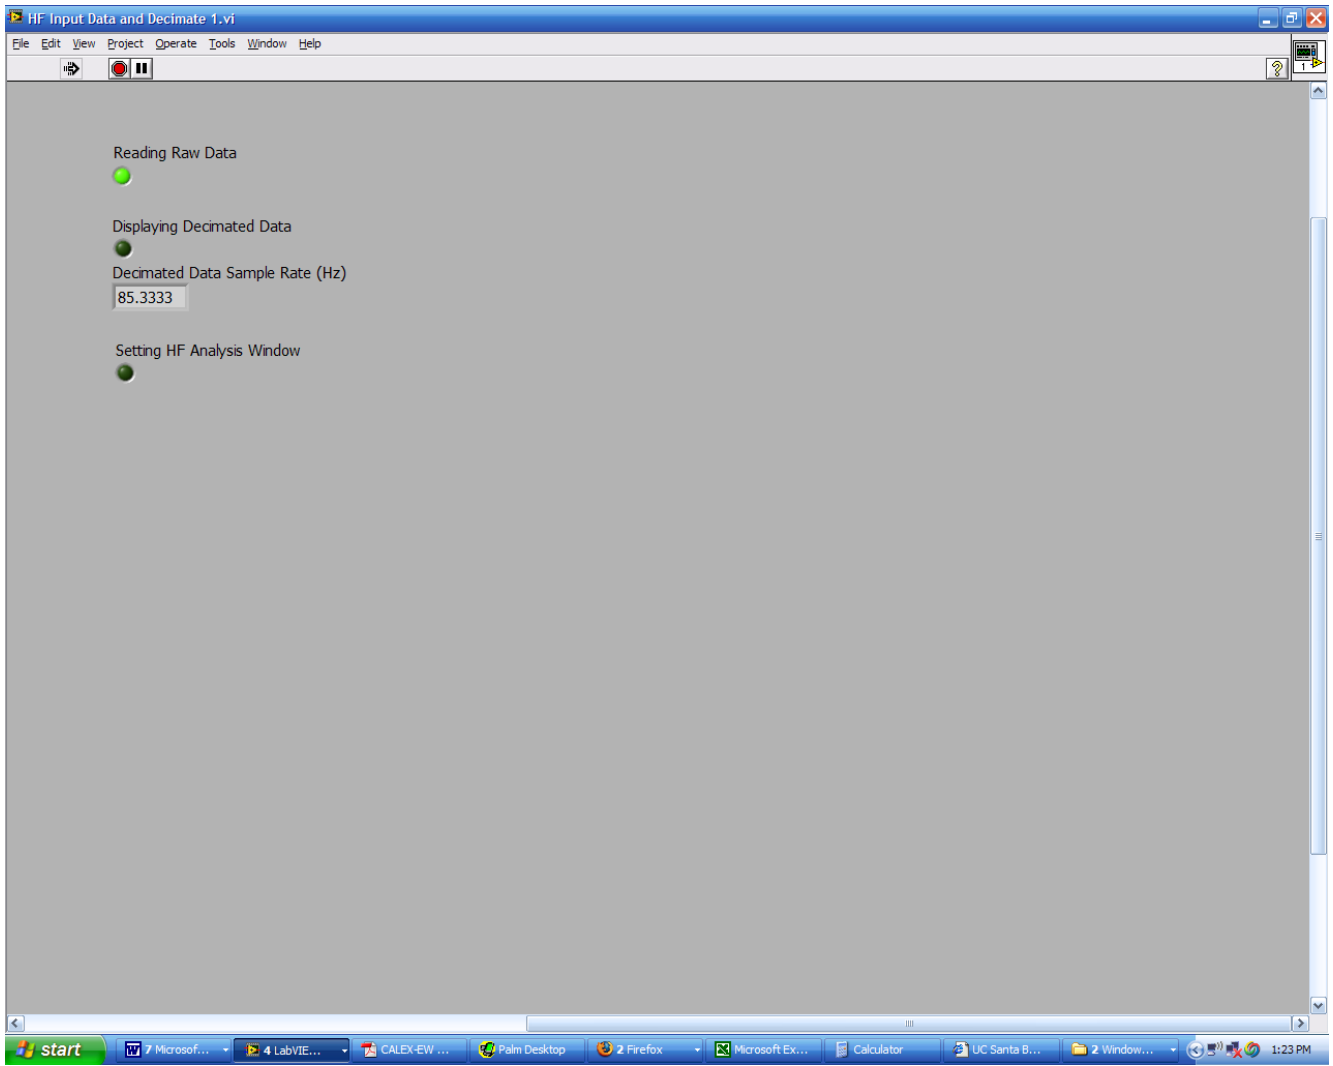

**Figure 14. Screen shot of “Data Column Number Input 1.vi”**
- l. A dynamic window “Data Column Number Input 1.vi” opens. This is shown in Figure 14. The user enters the proper column numbers for the stimulus and response data. **Note that 0 (and not 1) is the first column index, per LabVIEW’s protocols.** The user enters the proper column numbers and hits the “ENTER and Proceed” button when they are correct.